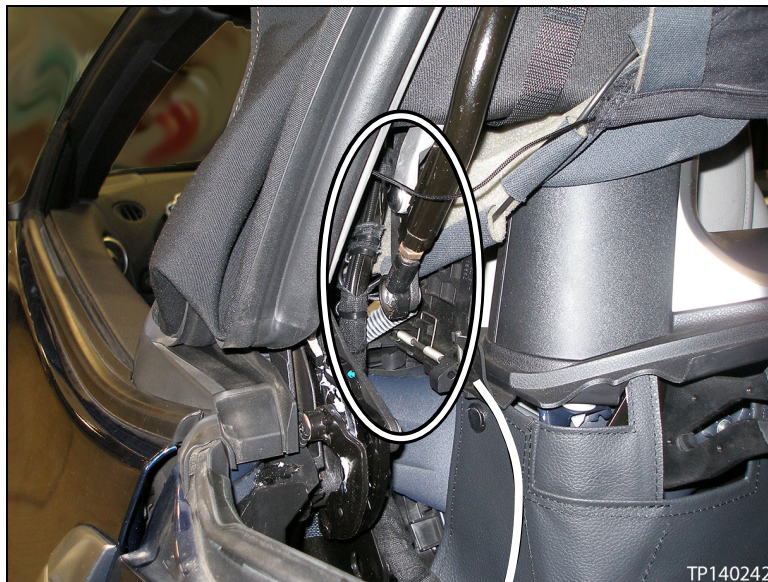

Figure 2
2. Saturate both pressure link pivot joints with WD-40® or equivalent lubricant (see Figure 2).
- b. Turn the coupling nut one (1) full turn counter clockwise.